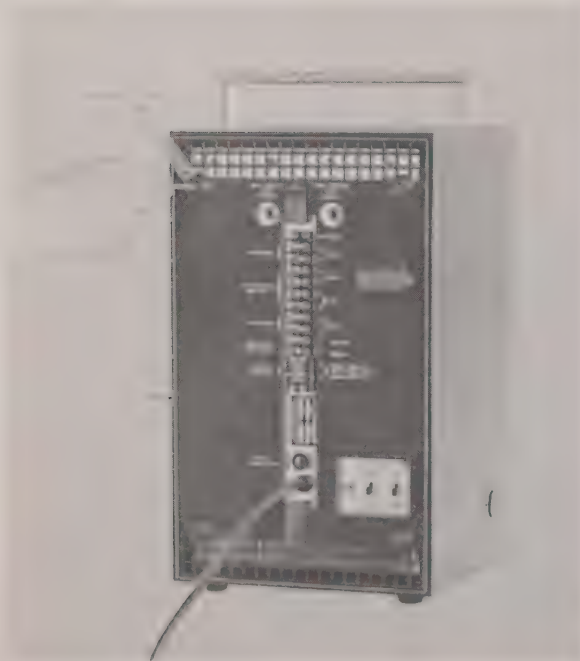

FIGURE 6-1 REMOVE REAR COVER
4. Unscrew four rubber feet securing rear cover to recorder and remove. (Fig. 6-1).
8. Install rear cover on unit by putting power input cord through cover and attaching cover to unit with four rubber feet (Fig. 6-1).